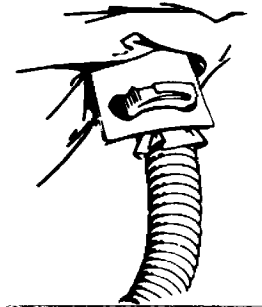

Figure 11
3. Install nylon clamp over air entry sleeve and breathing tube, inserting clamp locks through two holes in plastic anchorplate that is sewn into hood. Locks should face away from user's neck (see Figure 11).